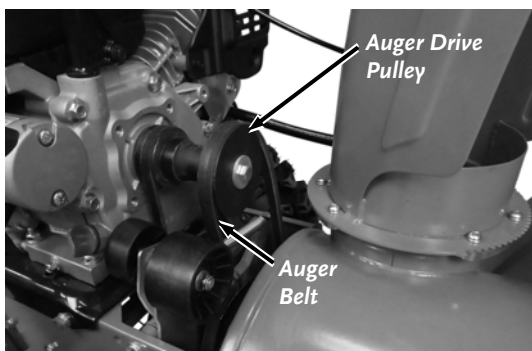

Figure 45
4. Roll the Auger Belt off the front of the Auger Drive Pulley (**Figure 45**).